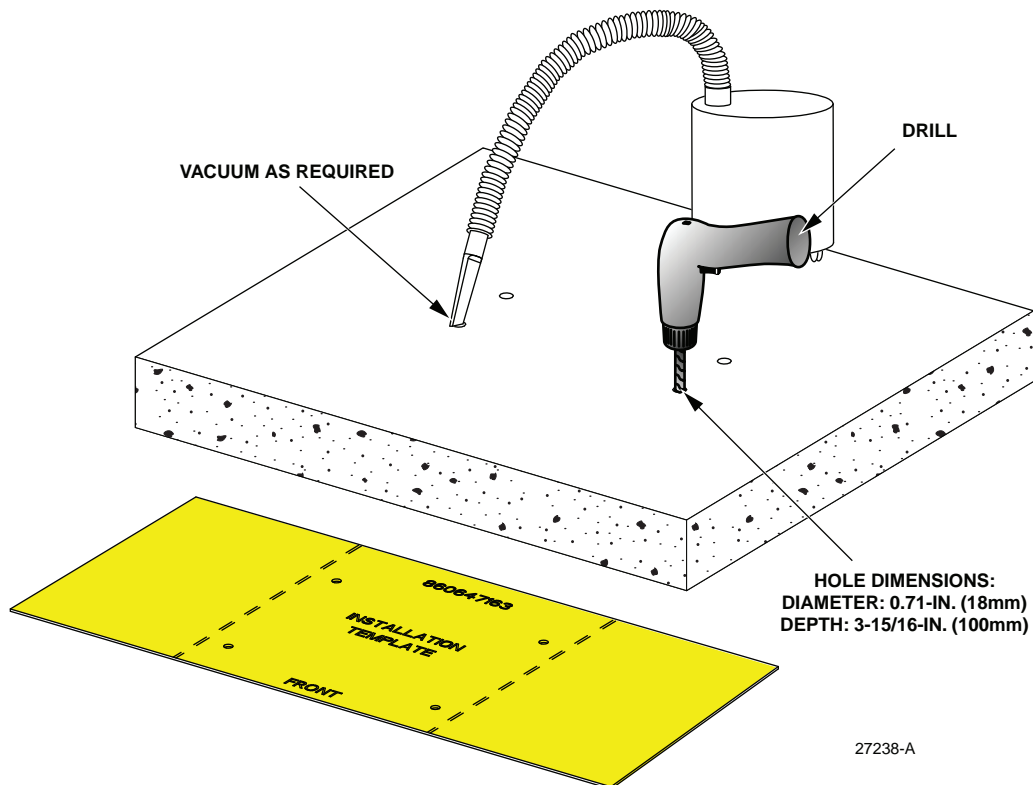

Figure 8. Drilling Mounting Holes
- Set aside the isolation pad and drill four mounting holes in the concrete at the marks just made, as shown in Figure 8.